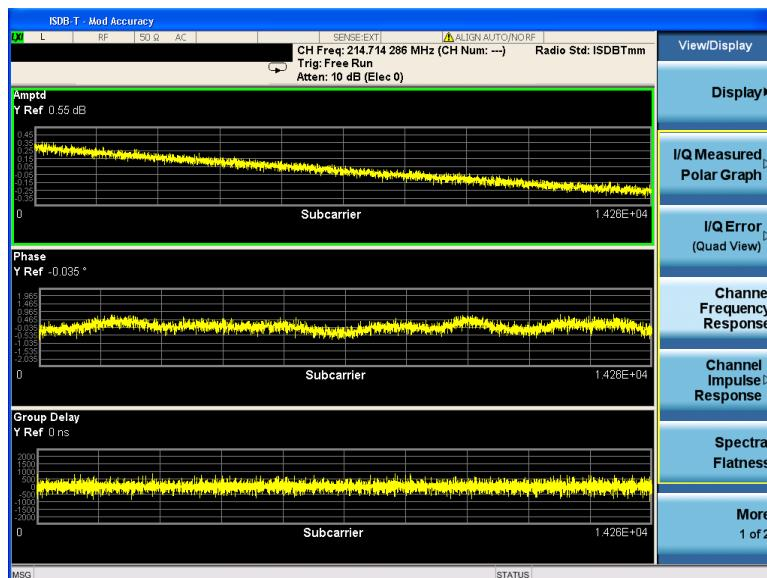

Figure 22. Channel frequency response view for ISDB-Tmm signals
View the channel frequency response results (Figure 22)	[View/Display] {Channel Frequency Response}
- **Channel frequency response** view (Figure 22): This is a three window view which includes: